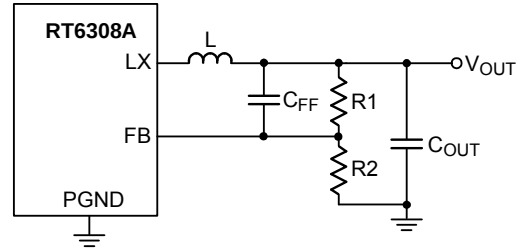
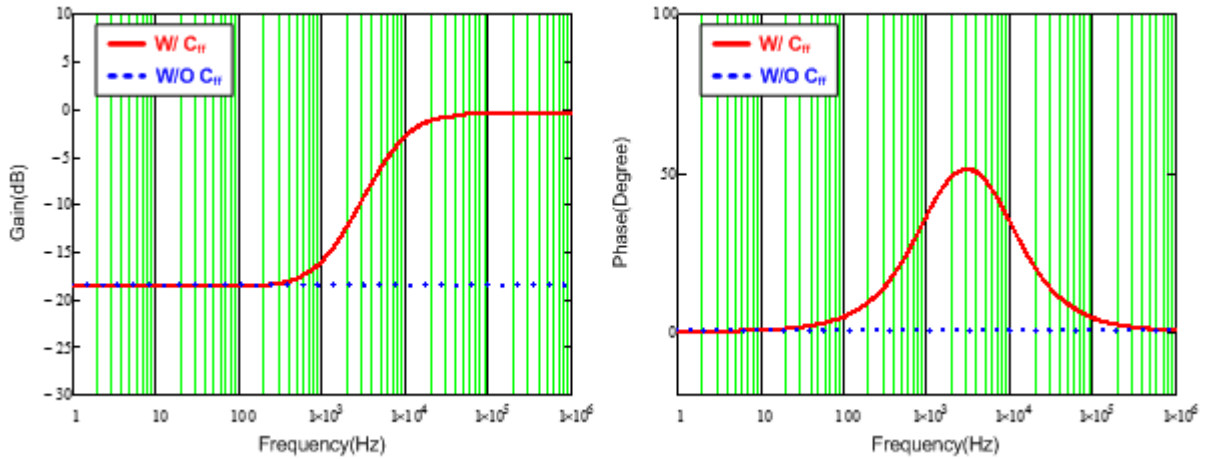

Figure 5. Feedback Loop with feedforward Capacitor.
Figure 6. Bode Plot with Different Feedback Loop Conditions
of compensator are integrated in IC. However, this integrated compensator might not suit to every load transient spec. Hence, for the RT6308A to be more adaptable, the feedforward capacitor C_{FF} is used in the feedback loop to improve transient response, as shown in Figure 5. Figure 6 shows the comparison result of bode plot with different feedback loop conditions. Referring to Figure 6, through connecting a C_{FF} in feedback network, the gain and phase are raised in mid-frequency that not only can extend the bandwidth, but boost the phase margin as well. Moreover, there is also a high frequency pole to eliminate high frequency noise. Consequently, those features of feedforward feedback network allow the RT6308A have faster response to handle different load transient.
Observing Figure 6, the maximum phase boost occurs between zero and pole frequencies that is defined as maximum phase boost frequency, as expressed in equation (4). Hence, in order to achieve the maximum phase boost by adding C_{FF} in the RT6308A, the system's original bandwidth has to be located at maximum phase boost frequency.